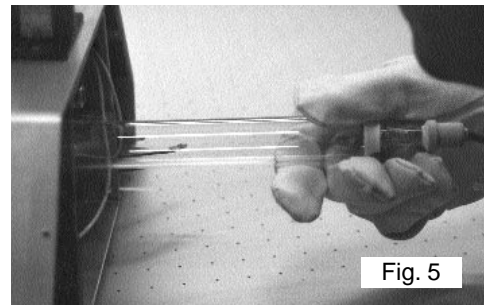

Fig. 5
5. While wearing lintless gloves, carefully remove the lamp from the reflector housing. (See Fig. 5)